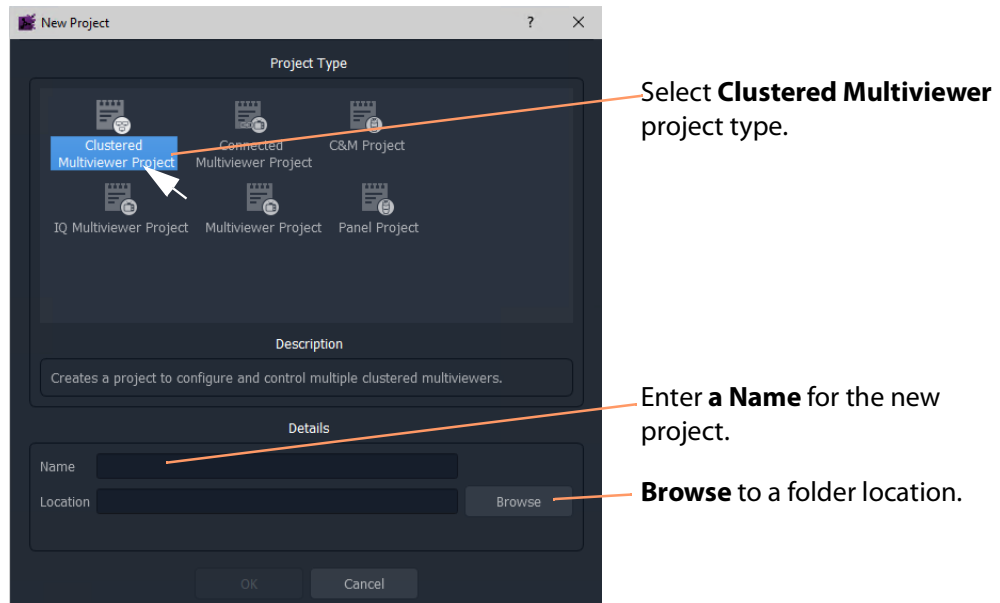

Fig. 13-3: New Project Dialog
- 3 Select the **Clustered Multiviewer** project type. (See Figure 13-3.)